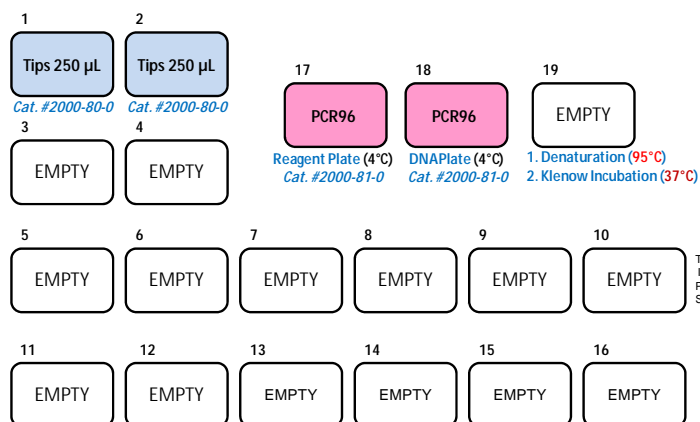
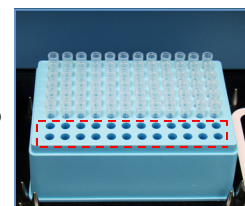
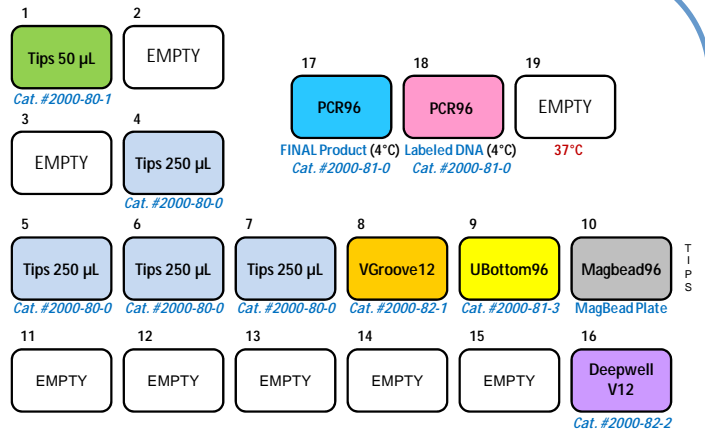

Figure 1. Deck layout for 24 labeling reactions.
Figure 2. Remove tips.
Figure 8. Deck layout for magnetic bead purification of 24 samples.
- Ensure that all labware is placed correctly on the ArrayPrep® System (Figure 1). Remove tips from bottom two rows of tip racks in positions 1 & 2 (Figure 2). Place a container for used tips next to position 10 (Figure 3).
1. Ensure that all labware is placed on the correct positions on the ArrayPrep® instrument (Figure 8). Remove tips from bottom two rows of tip racks in positions 1, 4, 5, 6 & 7, similar to Figure 2.